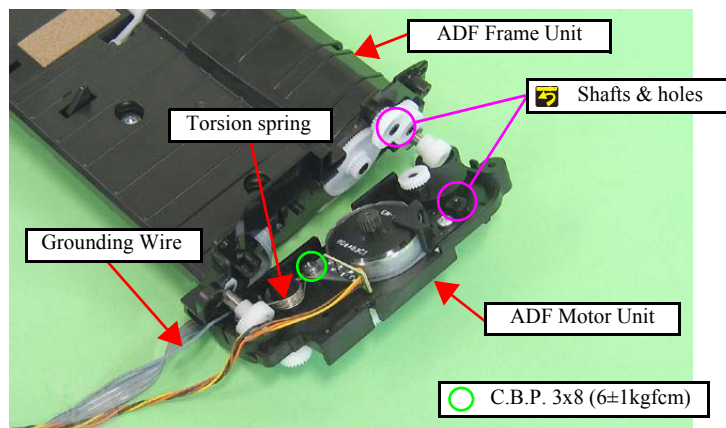

Figure 4-196. Removing the ADF Motor Unit (2)
- Insert the shaft of the ADF Motor Unit to the hole of the ADF Frame Unit as shown in Fig. 4-196.